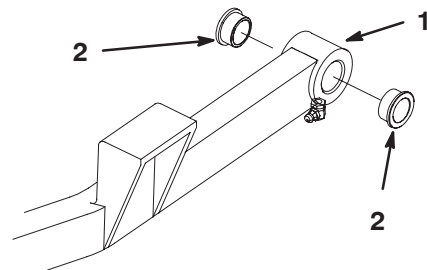

Figure 82
4. Insert a pin punch into the push arm and carefully drive out the bushings (Fig. 82). Clean the inside of the push arm.
5. Use a hammer and flat plate to carefully drive new bushings into the end of push arm (Fig. 82).